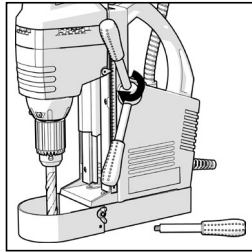

Fig. 1
- Attach the three handles into the spindle hub ensuring that they are fully seated. (Fig. 1)